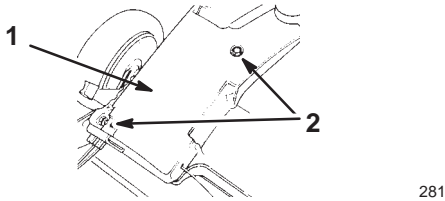

Figure 24
3. Remove the two bolts that secure the belt cover and remove the cover (Fig. 24).
2. Remove the two bolts that secure the belt cover to the lawn mower housing (Fig. 24).